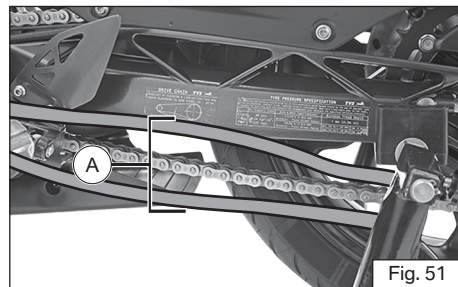

Fig. 51
- ◆ Using the fingers, check the slackness of the chain at the lower portion, midway (A) between the sprockets (ref. Fig. 51).
- ◆ The slackness (A) should be between 30 to 40 mm at the various points of the chain.